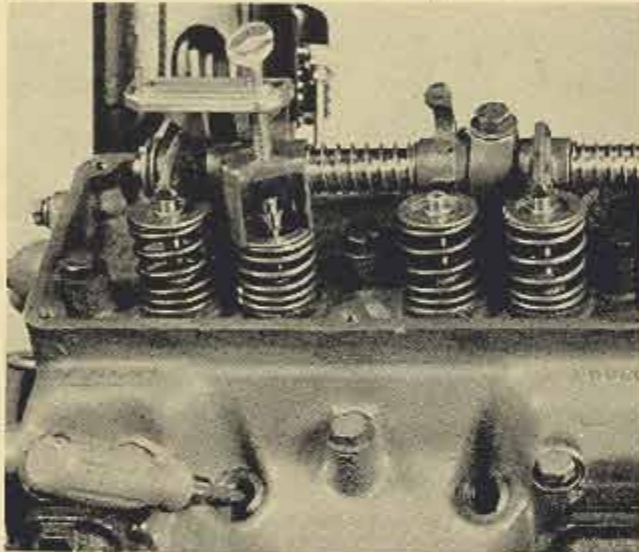

Fig. 1
Loosen all four rocker shaft bolts to about the end of their threads, lift the assembly upward and shift the rockers over and tip the valve stem up as shown in figure 1.
2. Clamp the tool under a rocker shaft bolt so that the thumb screw aligns with the end of the valve stem. Place the bridge portion of the tool on the valve spring seat, turn down the thumb screw until its point enters the bridge as shown in figure 1.